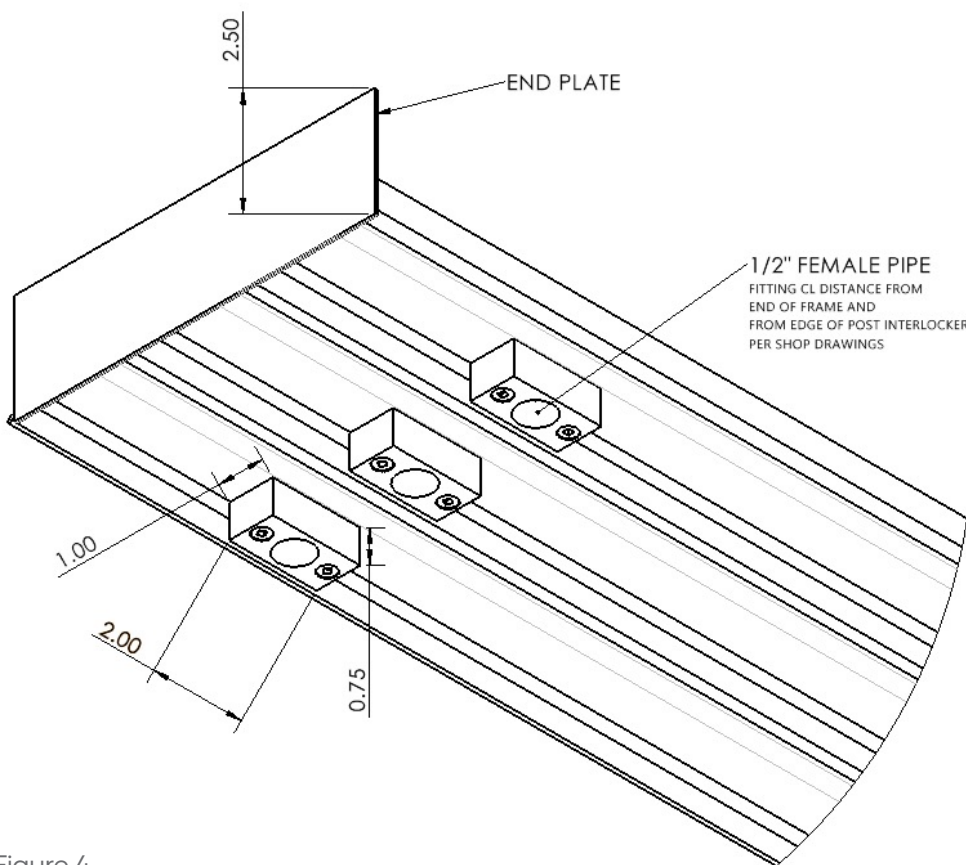

Figure 4
- Bottom Drain Fitting Sill (See Figure 4)
**NOTE: Pocketing doors should not have drain fittings or weeps located in the pocket area of the sill. Be sure to leave adequate clearance for a drain line and fitting for each track. (See Figure 4).**